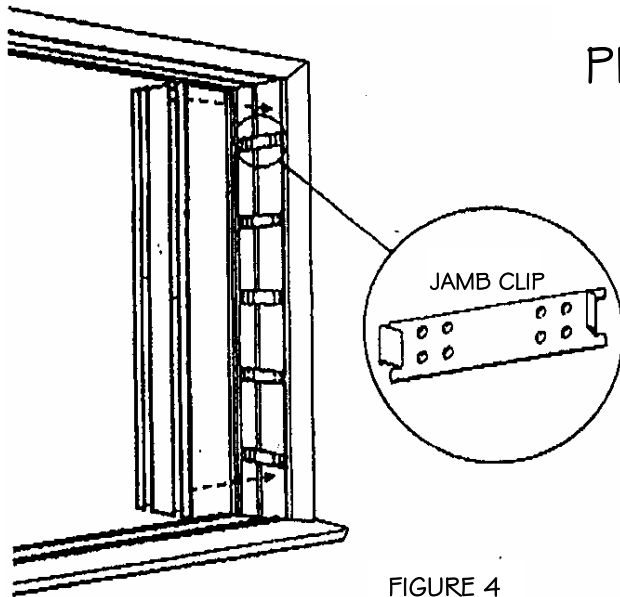

FIGURE 4
6. Position jamb clips and attach with small nails as follows: (1) 4" from sill at both sides, (1) 4" from head at both sides, remainder to be installed equal distance apart. Each sash kit will contain the proper amount of clips for its sash size. See Figure 4.